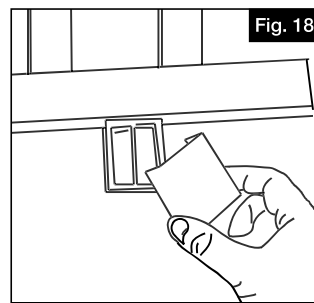

Fig. 18
- a. Attach the support foot to the deck surface using support foot screw and snap the cover into place (10' only) (Fig. 18).